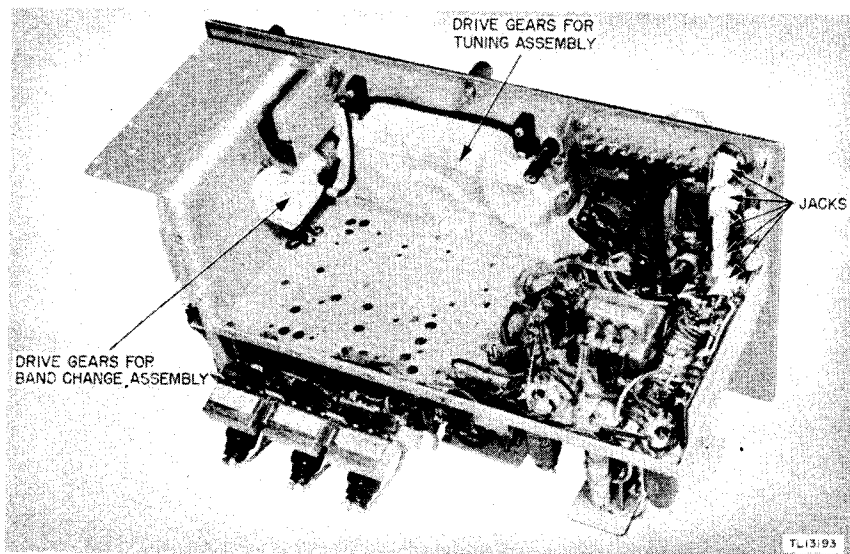

Figure 15. Bottom view of receiver chassis masked for moistureproofing and fungiproofing.
(4) Five jacks along edge of panel. (See fig. 15.)
(5) Drive gears of tuning assembly. (See fig. 15.)
(6) Drive gears of band change assembly. (See fig. 15.)